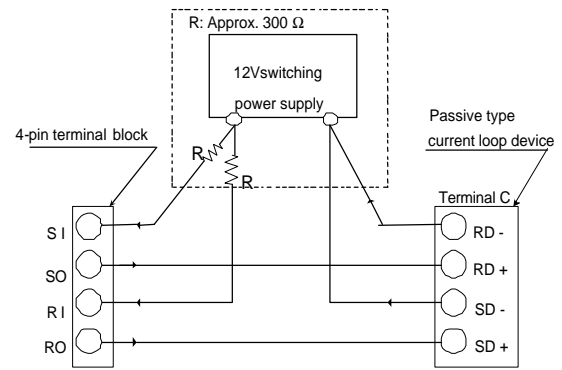

Fig.3 Connection for simulation
(2)Simulation operation of simulation (Fig.3)
- ◆The OP-1B cannot supply current for the current loop circuit. Because the OP-1B is a passive type device. If the circuit dose not contain a current source a suitable DC current must be supplied from an external circuit (shown by dotted Fig.3).